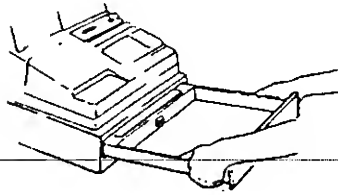

Fig. 24
3. When getting back the drawer, fit its rollers on the rails of the register and push it all the way in. (Fig. 24)